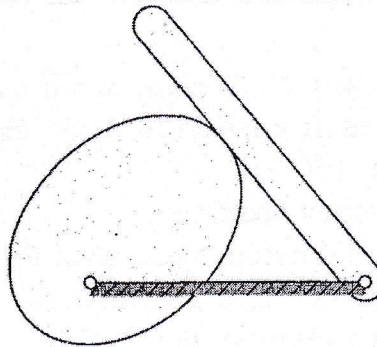

Figure 1
b) Determine DOF of following mechanism shown in figure 1 [6]